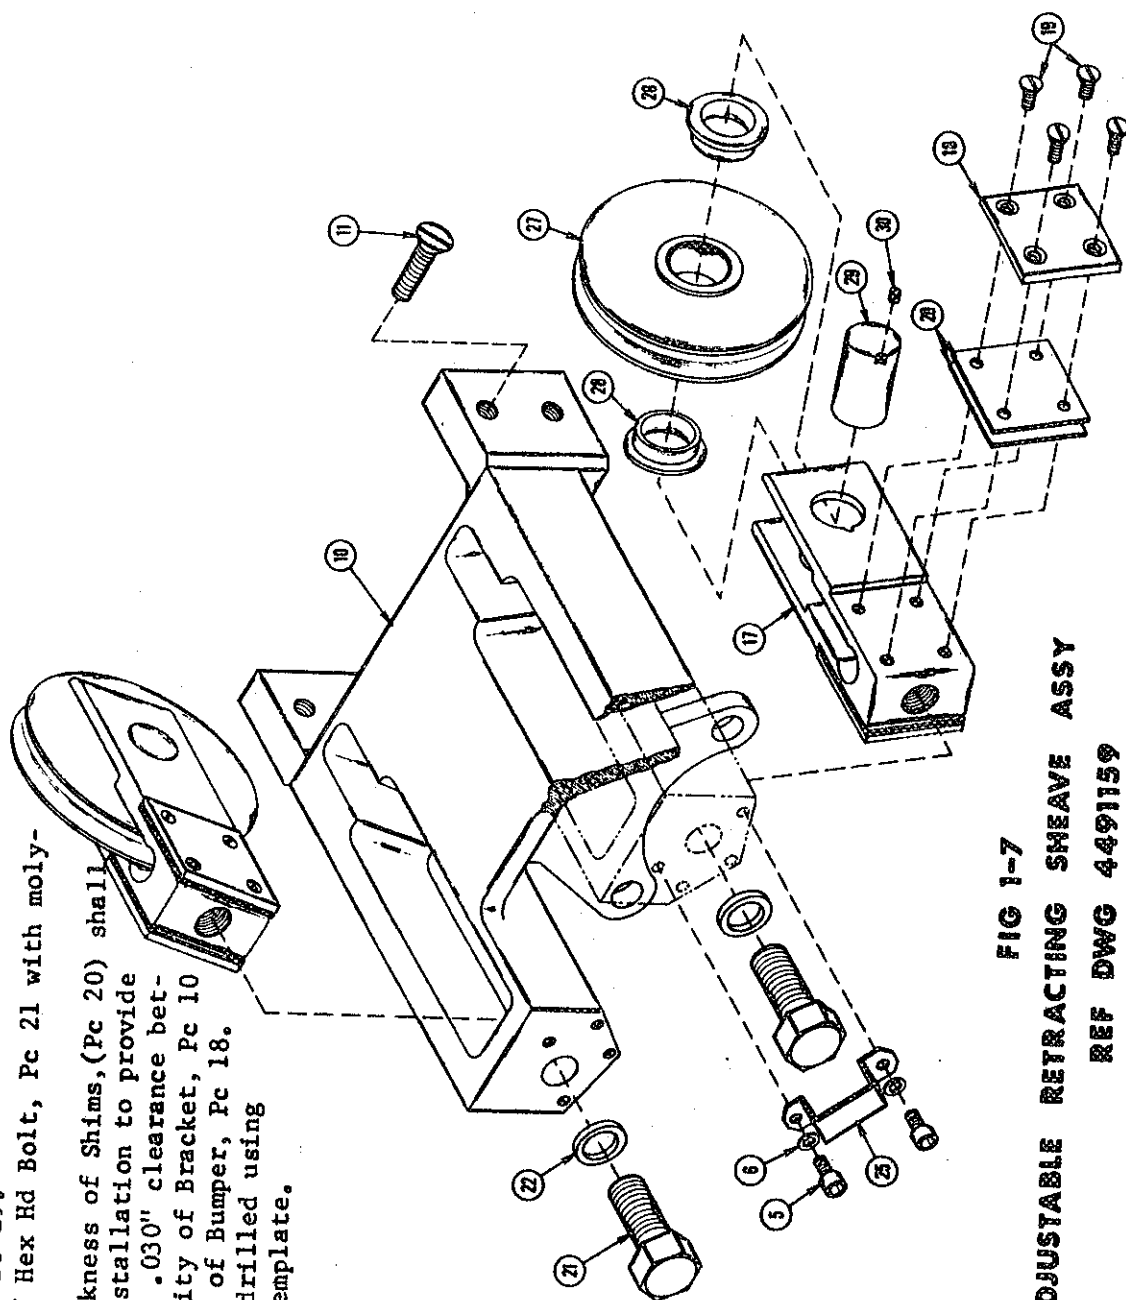

FIG 1-7
e. Adjustable Retracting Sheave Assembly, Ref. (7) Figure 1-7
- Step 1. Assemble the lower sheave bracket, Pc. 4, by securing the bumper, Pc. 18, with eight (8) flat head screws, Pc. 19.